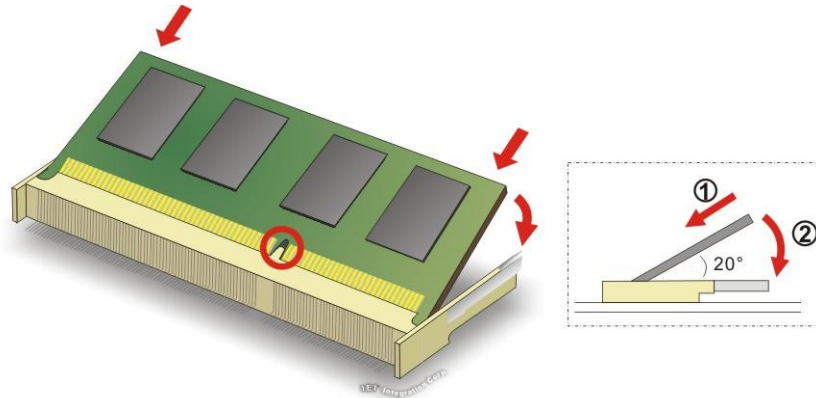

Figure 3-1: SO-DIMM Installation
To install an SO-DIMM, please follow the steps below and refer to **Figure 3-1**.
- Step 3:** **Insert the SO-DIMM**. Push the memory in at a 20° angle (see **Figure 3-1**).
- Step 4:** **Seat the SO-DIMM**. Gently push downwards and the arms clip into place (see **Figure 3-1**).